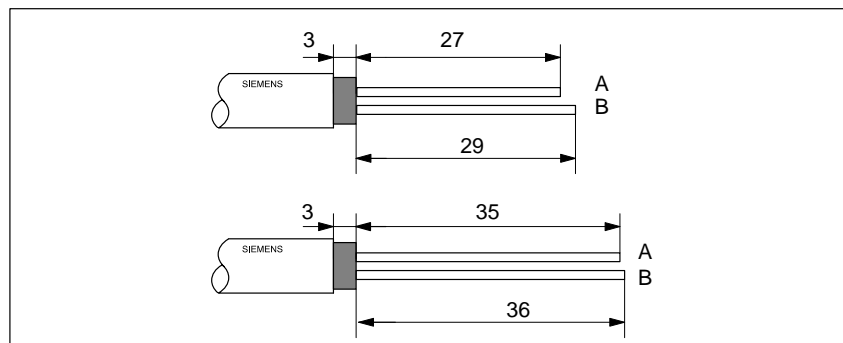

Figure 3-11 Length of stripped ends for connection to bus connector (6ES7 972-0BA30 ...)
1. Strip the ends of the bus cable as shown in Fig. 3-11.